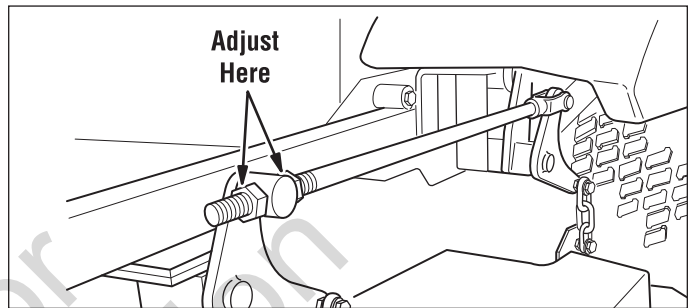

Figure 17. Adjust Lift Rod Timing
4. Refer to Figure 17. To adjust the lift rod timing, adjust the 5/8" hex nuts on either side of the front lift pivot until the measurements are equal. Repeat for other side.